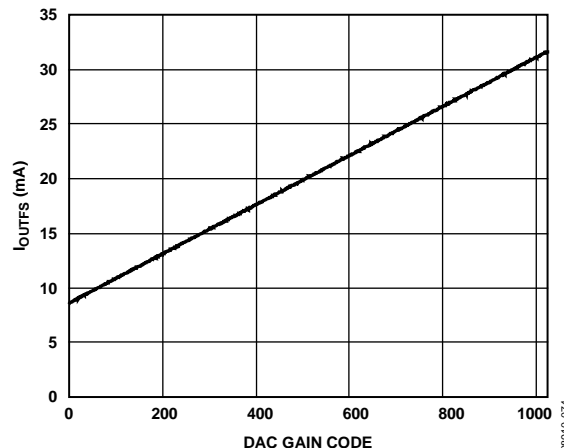

Figure 76. DAC Full-Scale Current vs. DAC Gain Code
For nominal values of V_{REF} (1.2 V), R_{SET} (10 k Ω), and DAC gain (512), the full-scale current of the DAC is typically 20.16 mA. The DAC full-scale current can be adjusted from 8.66 mA to 31.66 mA by setting the DAC gain parameter setting as shown in Figure 76.